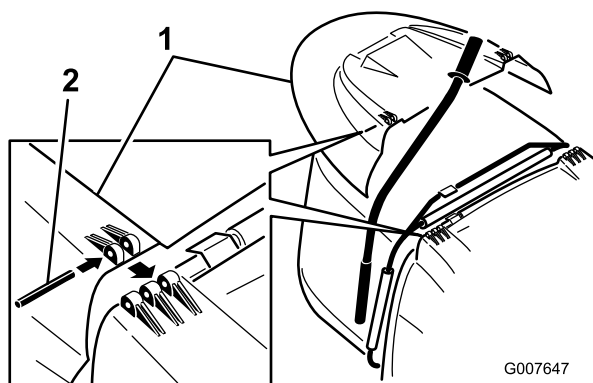

Figure 9
5. Attach the grass collector cover to the tractor with 2 pins (Figure 9).